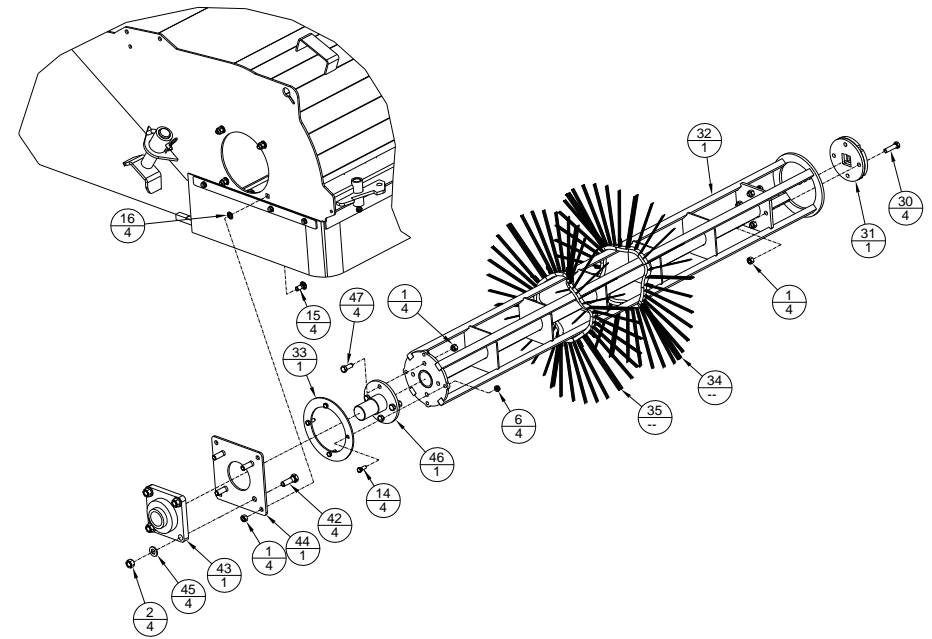

Figure 3.
- Remove the 4 nuts (Item #1, see Figure 3) holding the Bearing Mount Plate and remove the bearing.
- Remove the retaining plate (Item #33) from the end of the core (see Figure 3).
- Inspect the Broom Drive Flange Weldment (Item #31, see Figure 3) for wear. If excessive wear or deformation is present, replace before reinstalling core.